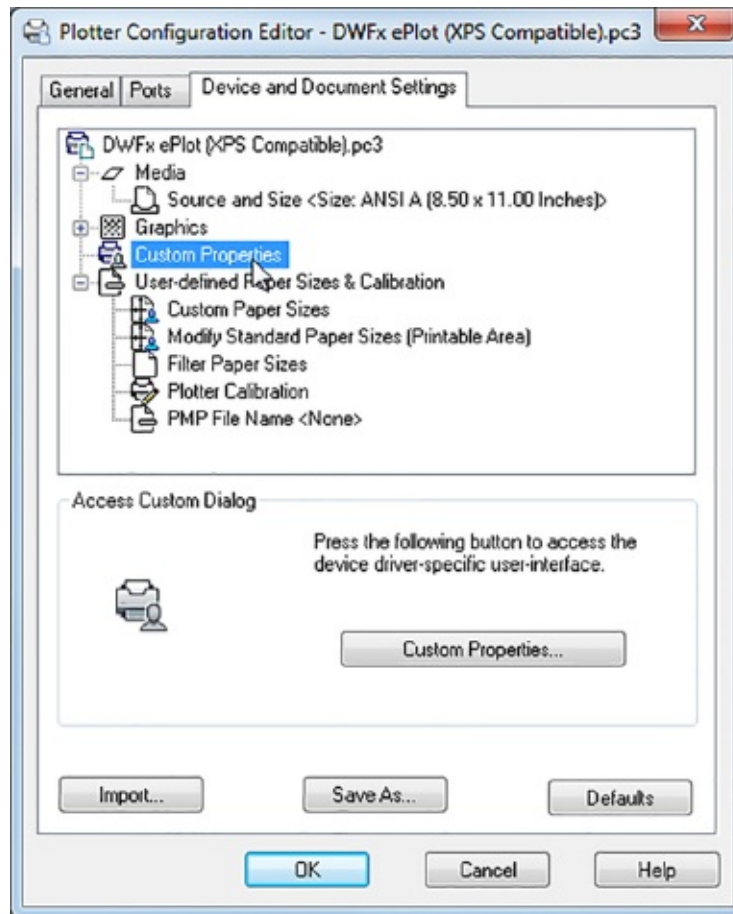

FIGURE 25.10 Controlling the plotter configuration file
4. Make sure that the Device And Document Settings tab is selected, and then click Custom Properties in the list box (see Figure 25.10).